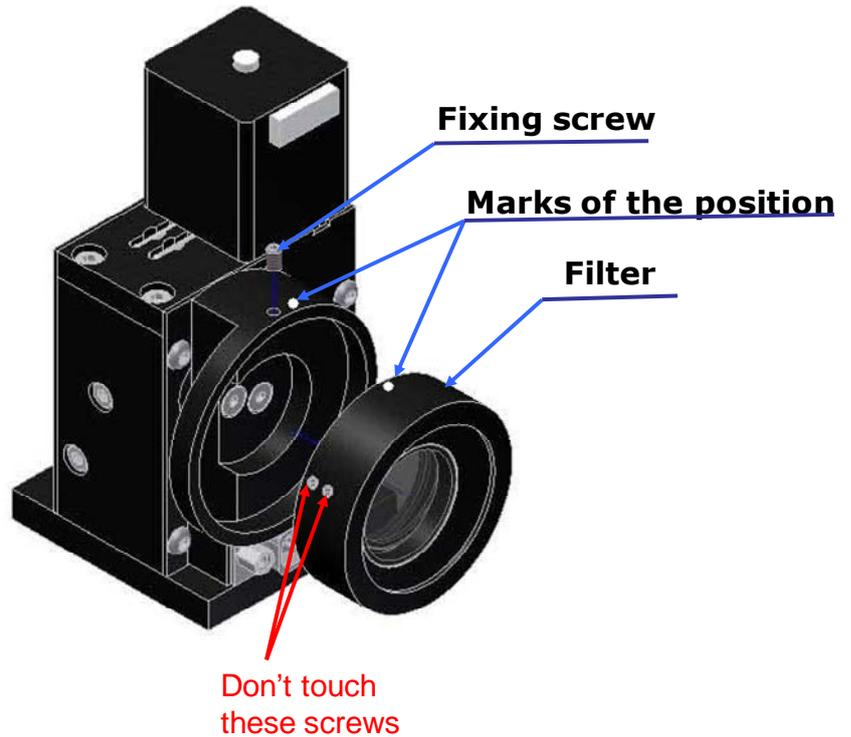

Fig. 11 Birefringent filter mount
6. If your laser is equipped with an optional birefringent filter then it is necessary to take it out of the holder (**Fig. 11**). Please be extremely careful not to confuse the fixation screw with the screws that fix the plates of the filter together. If the orientation of the plates changes then the filter will be inoperable. Please refer to Fig. 11.
50. Insert the filter back into the holder as shown in **Fig. 11**